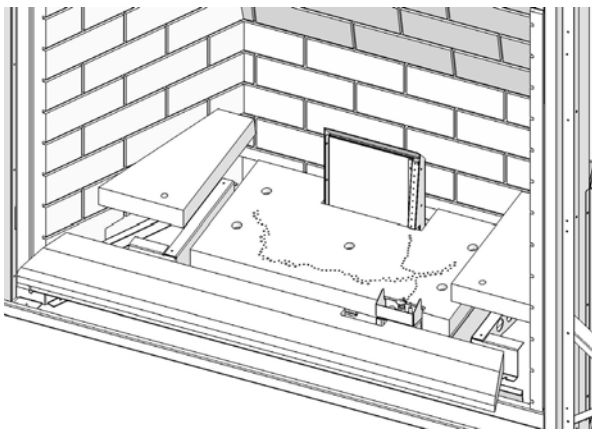
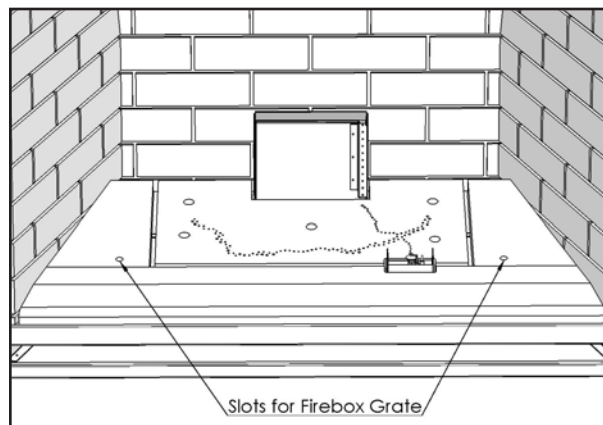

Figure 18: Burner Accents Pieces in Place.
Figure 19: Slot for Firebox Grate.
3. Install the burner accent pieces as shown in Figure 18. There are a left, a right and a front ceramic trim. On each side of the burner and on the inside of each burner side accent pieces there is a slot, which should be aligned in order to position the log grate correctly (see Figure 19).